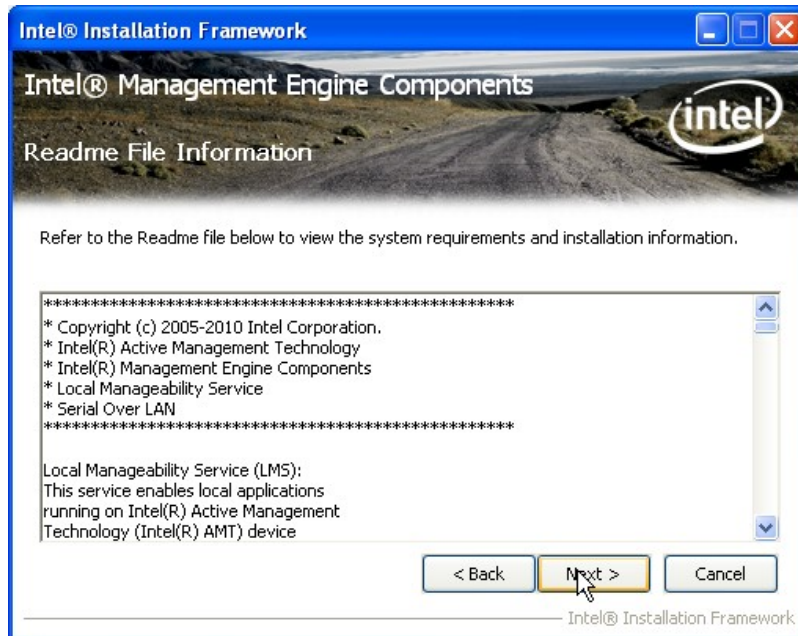

Figure 6-25: Intel® ME Driver Read Me File
Step 10: The **Read Me** file in **Figure 6-25** appears.